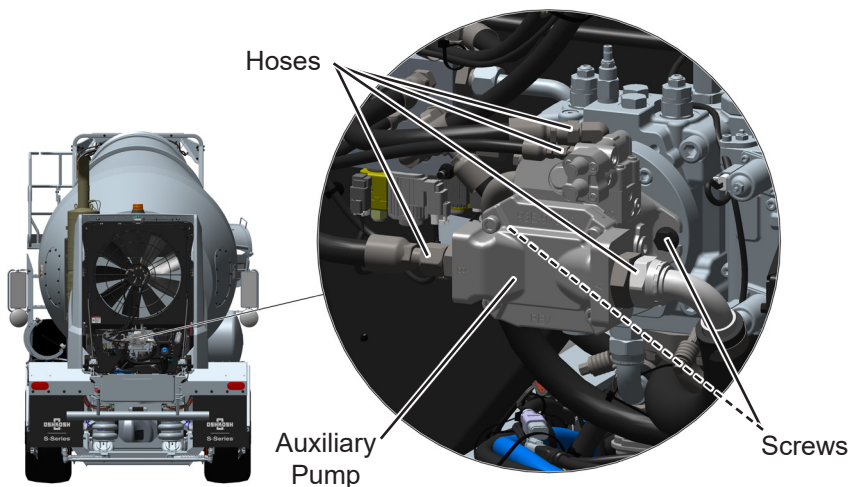

Figure 1
4. Locate auxiliary pump mounted to main pump. See Figure 1.
7. Loosen and remove screws securing auxiliary pump to main pump adapter plate. See Figure 1.